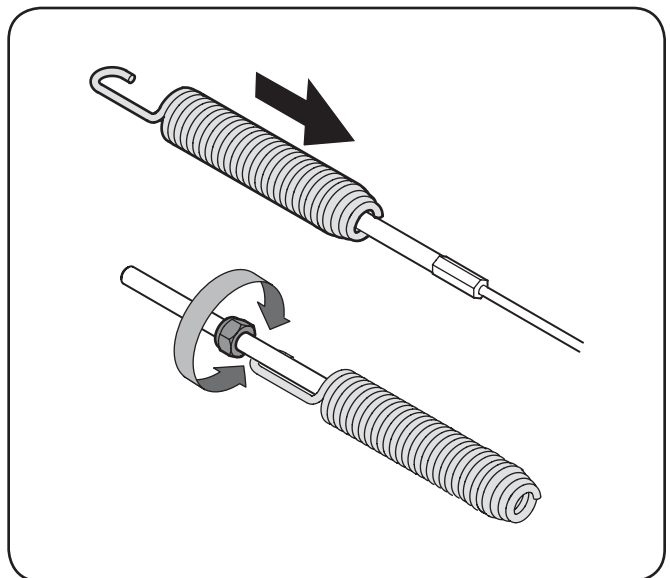

Figure 3-12
2. Slide the spring up the cable to expose the cable coupler threads and lock nut. Refer to Fig. 3-12.